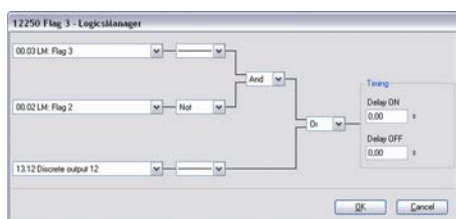

Fig. 197: LogicsManager function "Flag 3"
4. ➤ Configure the LogicsManager function "Flag 3" as shown in (Fig. 197).